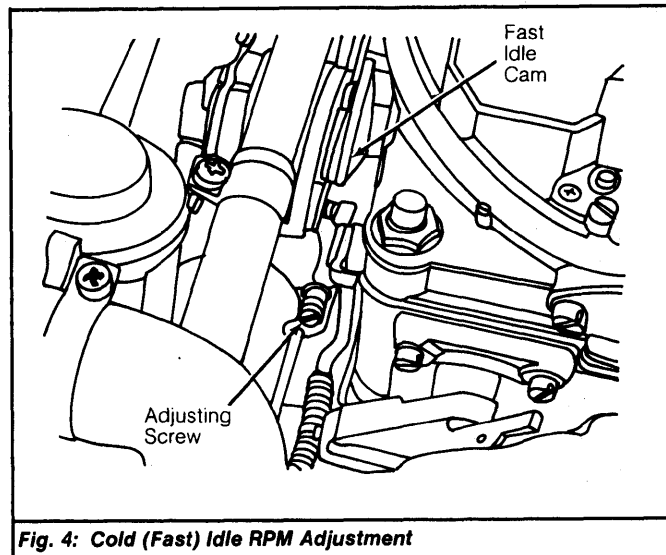

Fig. 4: Cold (Fast) Idle RPM Adjustment
**1974 Models** - With idle speed set to specifications, raise throttle lever valve slightly and place stepped disc up against stop. Release throttle lever and check fast idle speed. Adjust fast idle speed to specifications by turning adjusting screw. See Fig. 4.